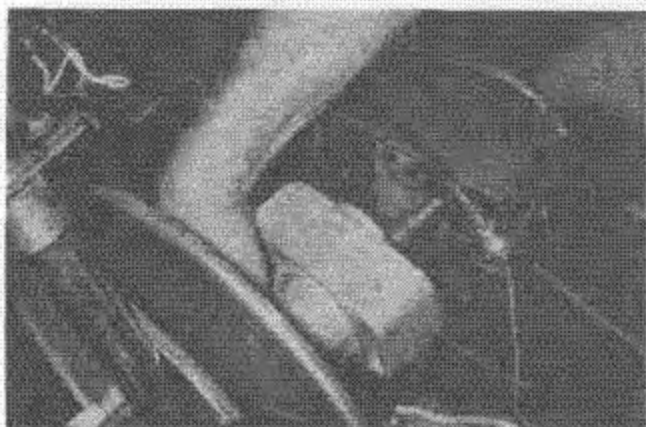

Fig. 51 — Sliding Shaft Out of Gear Case
4. Remove nut from end of shaft and bump shaft out of gear and case, Fig. 51.